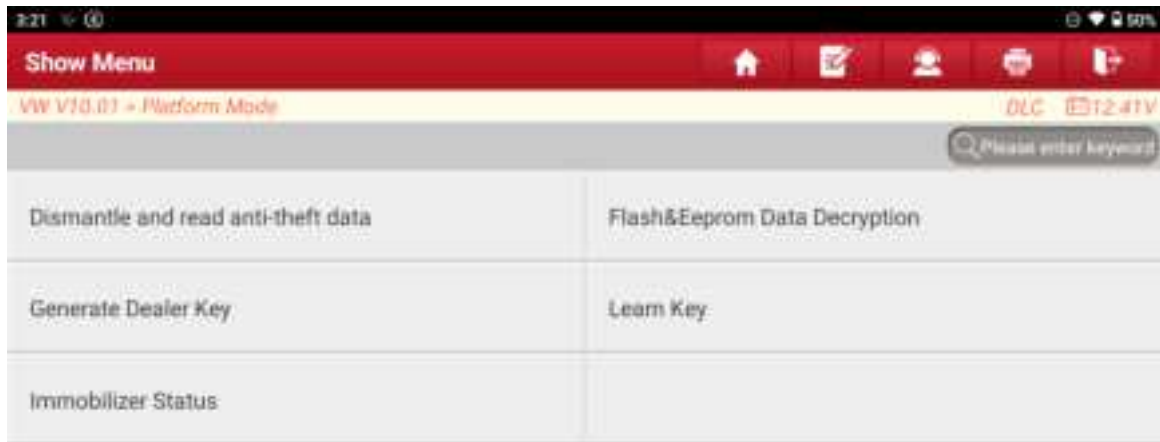

Figure 28
27. After restoring the instrument, install it on the car, connect the device to the car, and choose [Learn Key], as shown in Figure 28.